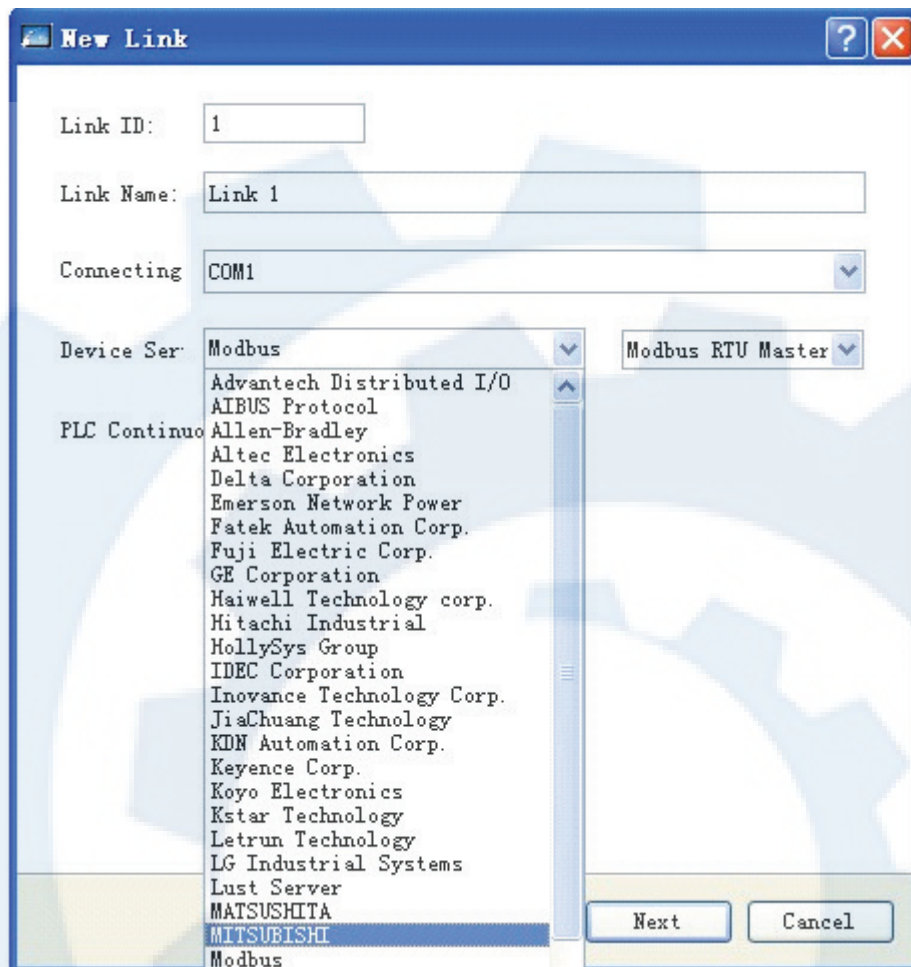

Figure 6-4 Dialog box for communication connection setting of new item
- ✓ Enter project name in column “Project Name”; select one saving position for the project in column "Position"; select “SK-043AS in column “Model Selection” (The 4.3-inch HMI is just taken for example. Users can select other models as required); select “Horizontal” in column “Display Mode” (Users can select vertical display as required). After finishing the setting, information just set by users will display in the below module “Model Parameter”. Users can click “Next” after confirmation to pop up the dialog box as shown in figure 6-4.